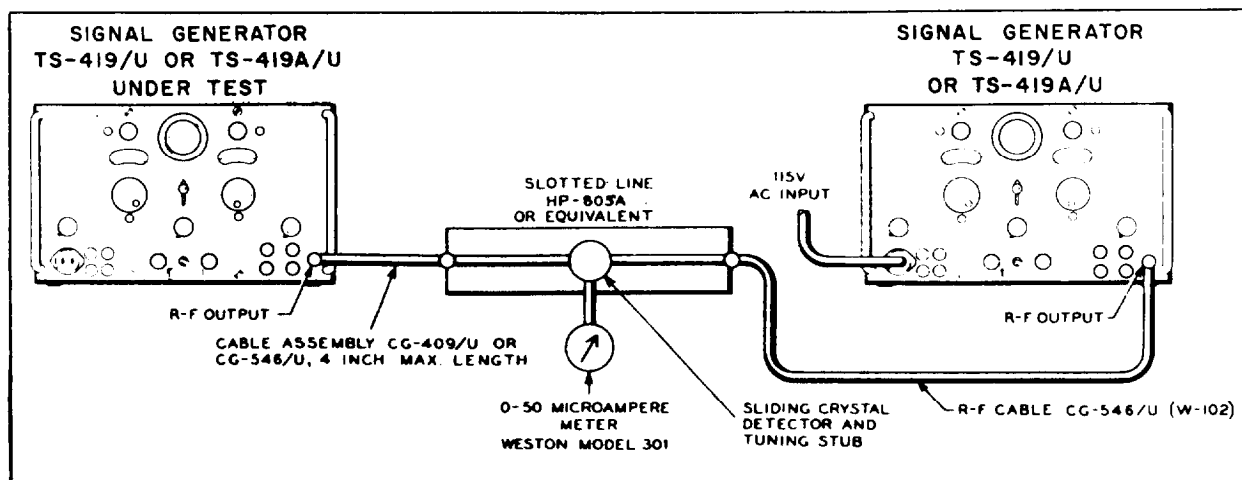

Figure 4-9. Test Connection Diagram for Measurement of Attenuator VSWR
(1) Connect the required test equipment as shown in figure 4-9.
(2) Set the OUTPUT ATTENUATOR of the TS-419/U to be tested at - 10 dbm. The signal generator to be tested should not be turned on. The settings of the other controls are immaterial.
(3) Set the controls of Signal Generator TS-419 U used to supply the test signals as follows: